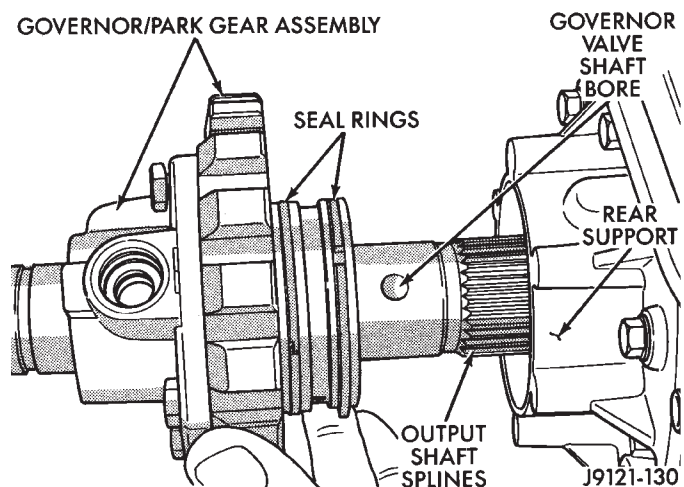

Fig. 15 Governor Body And Park Gear Removal/Installation
(14) Remove governor body-park gear assembly from output shaft (Fig. 15).